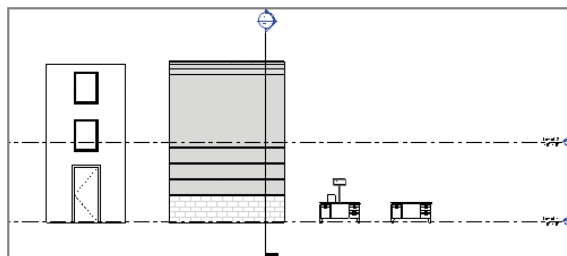

FIGURE 6.1 Zoom To Fit
1. The exercise file should open to the South elevation view. Zoom to the desk by right-clicking in the view and selecting Zoom To Fit. This will show you everything in your view; however, it doesn't give you a sense of what will be legibly printed (Figure 6.1).